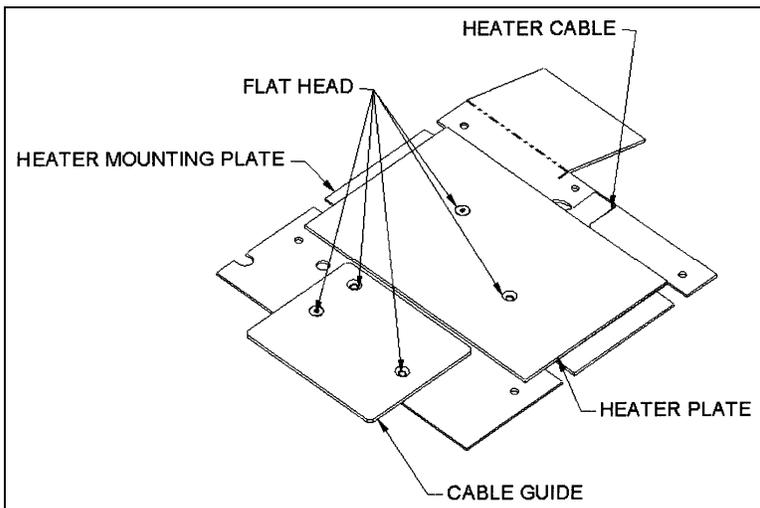

Figure 9-11 Mounting Heat Plate Assembly to Heater Mounting Plate
- 2 Attach the heater plate assembly to the heater mounting plate (Part No. 22000920) as shown in Figure 9-11.